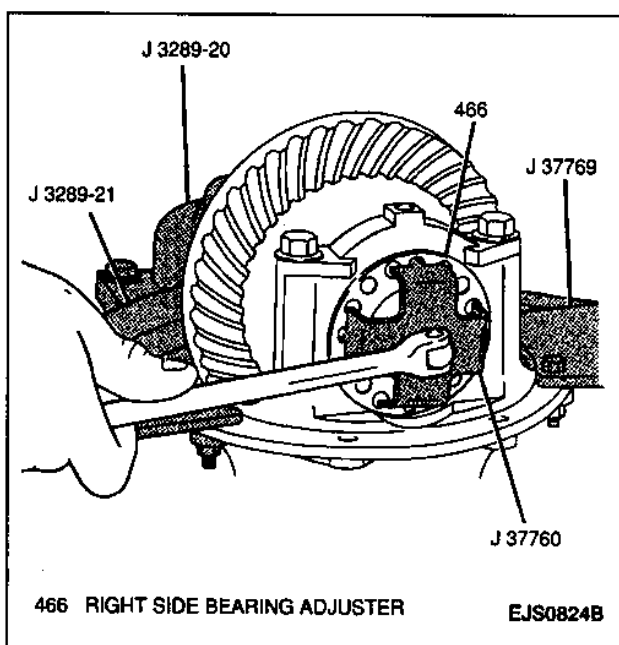

Figure 82—Loosening Right Side Bearing Adjuster
**Figures 82 and 83**
1. Loosen the right differential side bearing adjuster using a J 37760 until it no longer makes contact with the right differential side bearing race (Figure 82).
3. Install a J 8001 on the differential carrier between the center of each side bearing cap to measure case spread (Figure 82).